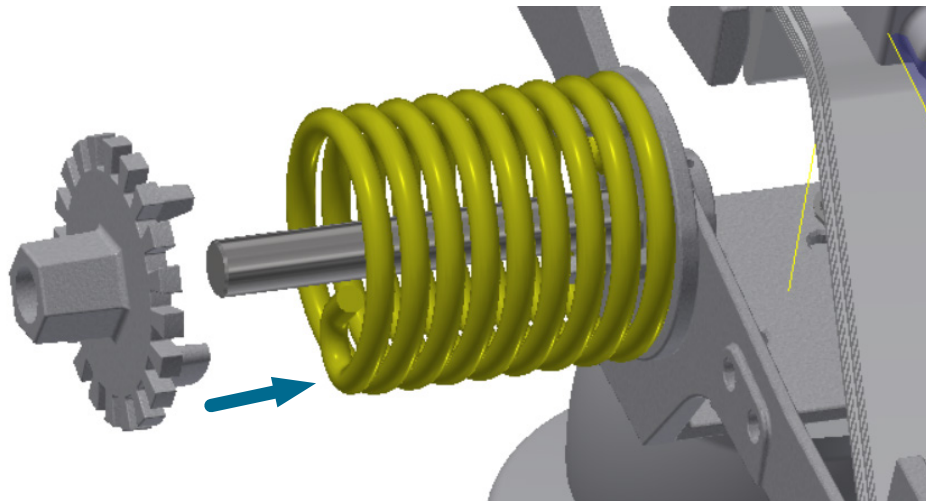

Figure 18. Spring alignment in Cover
- Slide the Adjustment Plate over the Hinge Pin and spring. Align the three tabs on the Adjustment Plate with the spring (Figure 18).